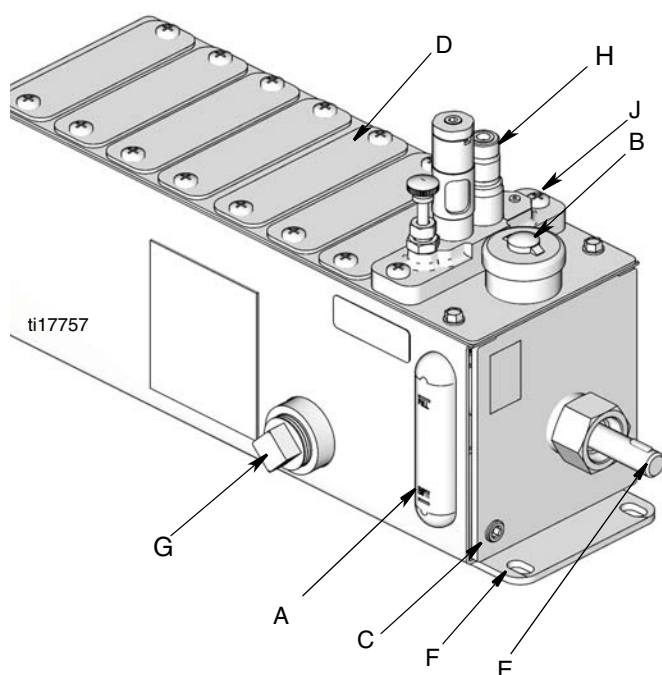

FIG. 1
Reference letters used in the following instructions, refer to FIG. 1.
- a. Drain reservoir by removing drain plug (C) (FIG. 1). Dispose of oil according to all applicable safety regulations.
- d. Replace pumping units. Torque mounting screws (J) to 110 in. lbs \pm 10 in. lbs. (12.43 N.m \pm 1.13 N.m).
- e. Apply thread sealant (user supplied) to drain plug (C) (FIG. 1) and replace. Torque to 35 in. lbs \pm 5 in. lbs. (3.95 N.m \pm 0.6 N.m).